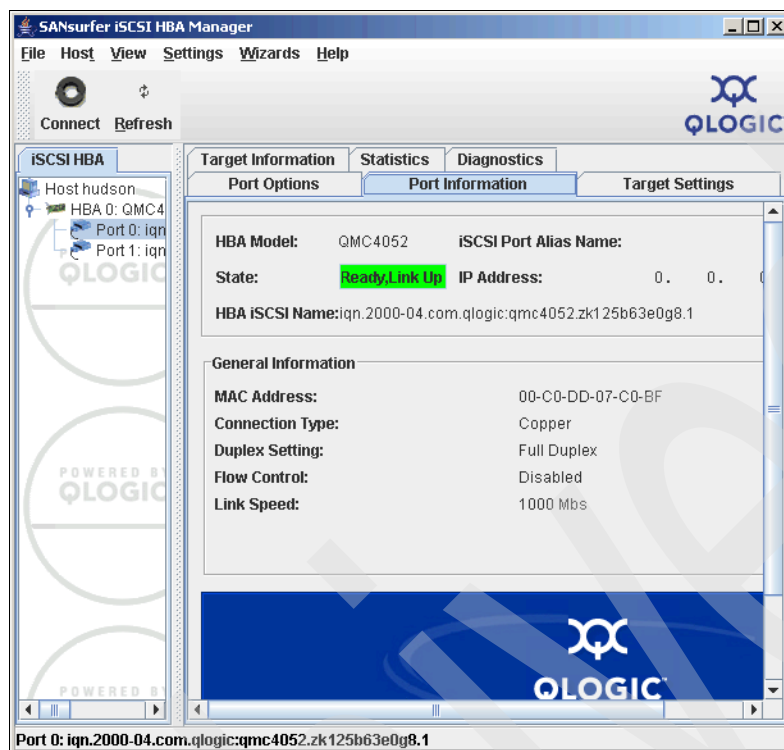

Figure 21-24 SANsurfer - Port information
- To start the data collection, select the first port of the HBA, and click **Port Information**, as shown in Figure 21-24.